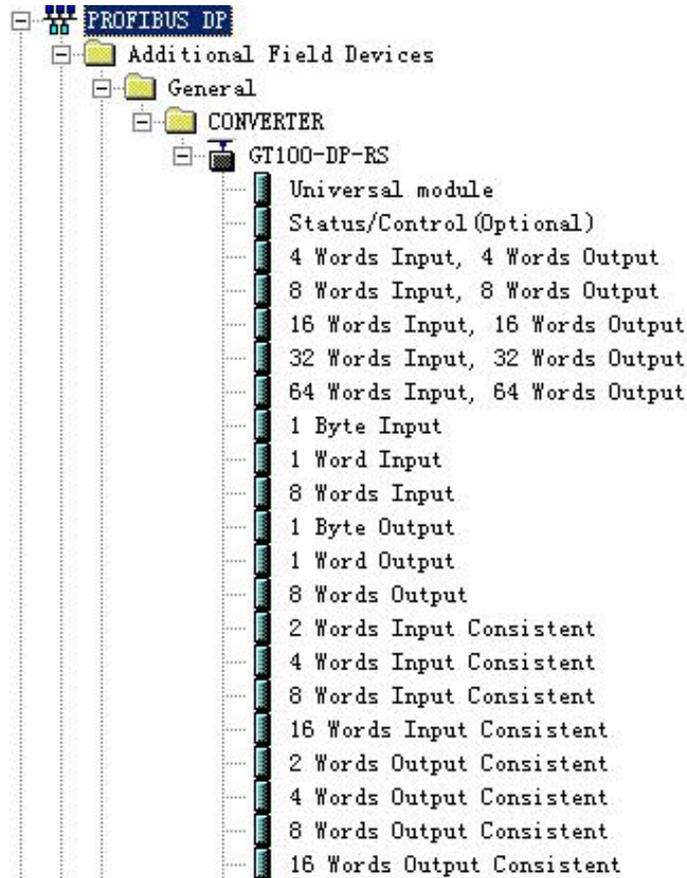

Figure 6
6. Here you can find your equipment in the right side of the window/PROFIBUS DP/Additional Field Devices/Converter/GT100-DP-RS/, as Figure 6 shown: